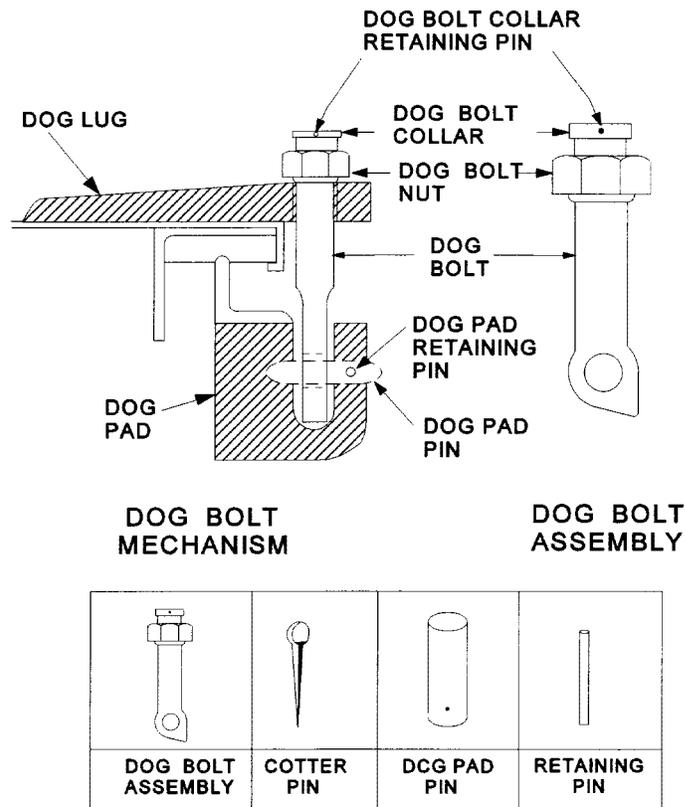

Figure 4-2. Watertight Hatch Dog Bolt Mechanism
c. Attach a new nut, boss side down. Reinstall the collar and retaining pin. See figure 4-2.